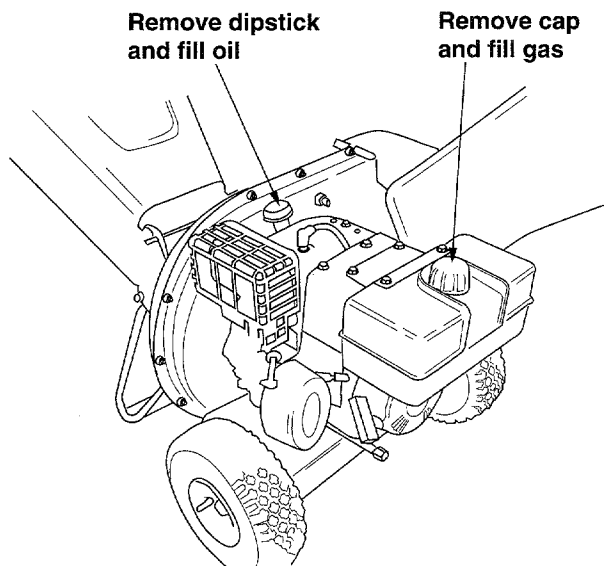

Figure 9
- Remove oil fill dipstick. See figure 9
- Fill fuel tank with clean, fresh, lead-free automotive gasoline. DO NOT use Ethyl or high octane gasoline. See figure 9.